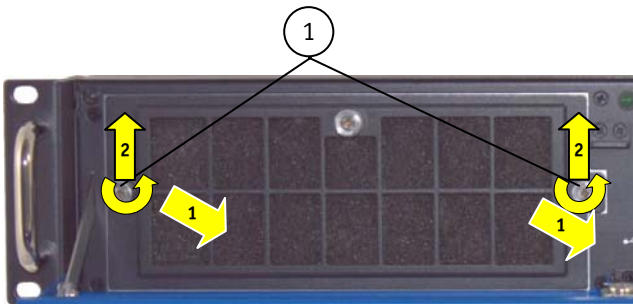
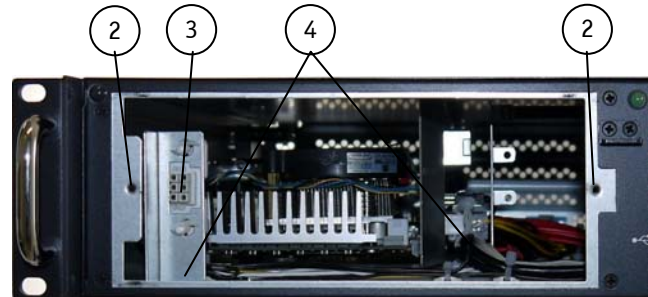

Fig. 38: Detail: removing the fan slide-in module
Fig. 39: Detail: Fan compartment (without fan slide-in module)
2. Loosen the two knurled screws of the fan slide-in module (Fig. 38, pos. 1)
3. Pull the fan slide-in module out to disconnect it from the internal fan control socket (Fig. 39, pos. 3).
4. Lift the slide-in module upwards in the arrow direction to remove it from the fan compartment (see Fig. 39).
Legend for Fig. 38 and Fig. 39:
7. Slide the fan slide-in module with mounted filter mat holder (Fig. 42) into the fan compartment (Fig. 39, pos. 4).
8. Push the fan slide-in module into the fan compartment until the fan control connector (Fig. 41, pos. 2) is firmly inserted into the socket (Fig. 39, pos. 3).
9. Fasten the knurled screws of the fan slide-in module (Fig. 38, pos. 1)